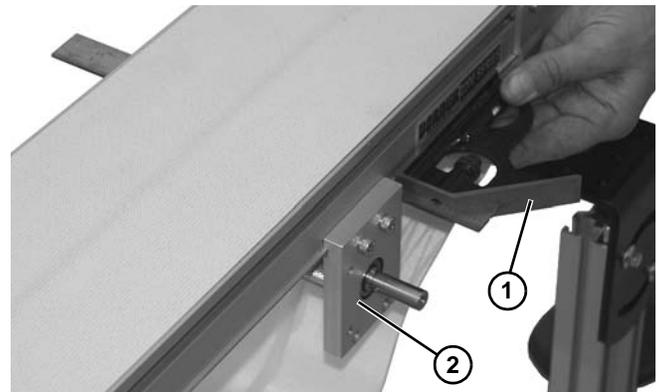

Figure 121
- Be certain to use a square (**Figure 121, item 1**) across mounting blocks (**Figure 121, item 2**), so blocks are aligned to one another, before tightening hardware.